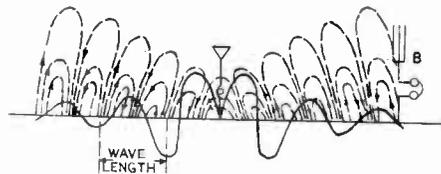

Fig. 19. Wave forms of energy transmission by electro magnetic wave radiation.
34. WAVE TRANSMISSION: In Fig. 19 the common open type transmitting circuit is shown. In this circuit the disturbance in space is caused primarily by electrostatic and associative electromagnetic fields which travel outward in all directions in the form of waves. Open circuits are much more effective radiators of electrical energy than closed ones, but even with an open circuit radiator enormous power would be necessary to send out waves having
The two radiated fields move outward from the antenna at all times perpendicular to each other, the magnetic field being parallel to the ground and the electrostatic field being perpendicular to it. At the same time, both fields are at right angles to the direction of propagation of the waves. At great distances from the antenna, the electric waves would be exactly perpendicular to the earth, if the earth were a perfect conductor. Actually the resistance of the earth's surface causes the waves to tip forward somewhat as shown in Fig. 19.